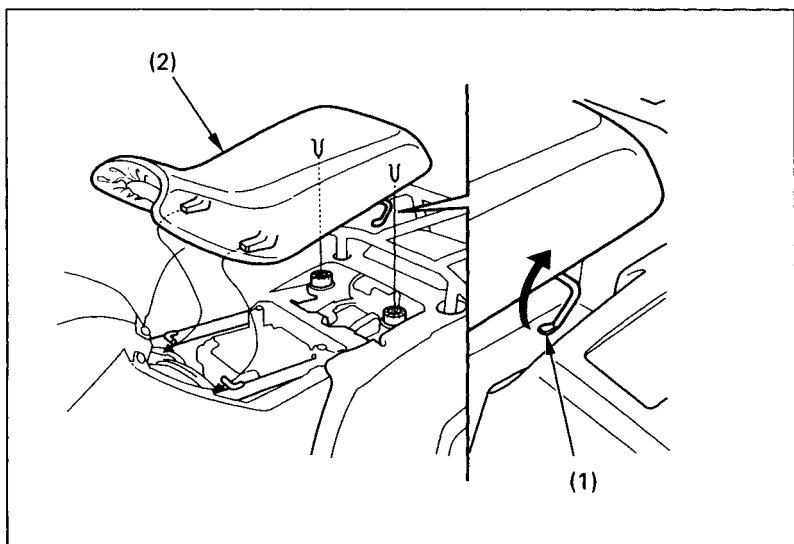

Fig. 4-33 (1) Seat lock lever
To remove the seat (Fig. 4-33), pull up the seat lock lever (1) at the left side of the seat and lift it up.